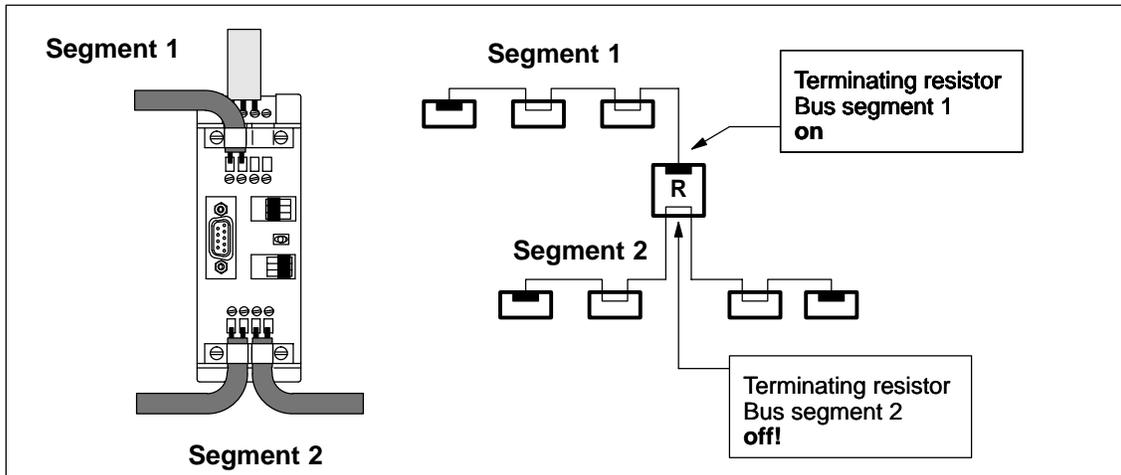

Figure 5-4 Connecting Two Bus Segments to the RS-485 Repeater
- Segment 1 terminated on the RS-485 repeater and segment 2 connected through on the RS-485 repeater (see Figure 5-4)
Figure 5-4 shows the connection between two segments via an RS-485 repeater with one segment connected through: